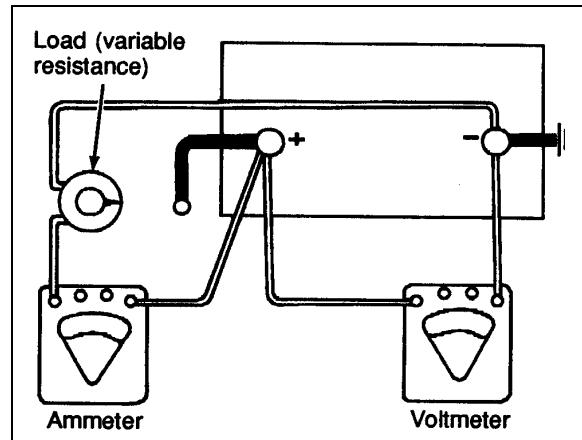

FIGURE 19: LOAD TEST⁰⁶⁰⁶⁴
To make this test, use test equipment that will withstand a heavy electrical load from the battery, such as a carbon pile resistor along with an ammeter and volt meter (fig 19). A charging system analyzer test equipment may also be used.
1. Connect a voltmeter, ammeter, and a variable load resistance as illustrated in figure 19.